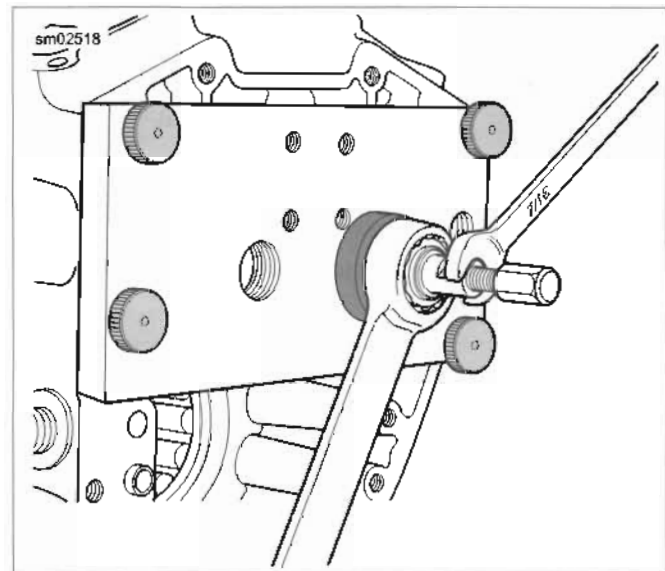

Figure 3-103. Bearing Removal
11. See Figure 3-103. Turn hex nut clockwise until bearing is free. If necessary, hold flat on collet to prevent rotation.